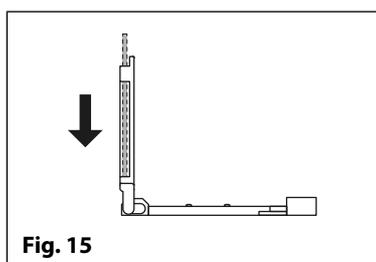
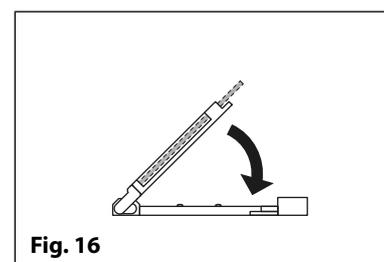

Fig. 15
Fig. 16
3. Place the SIM card into the holder (it will only fit one way, see **Fig.15**) and fold the holder back down, see **Fig.16**.